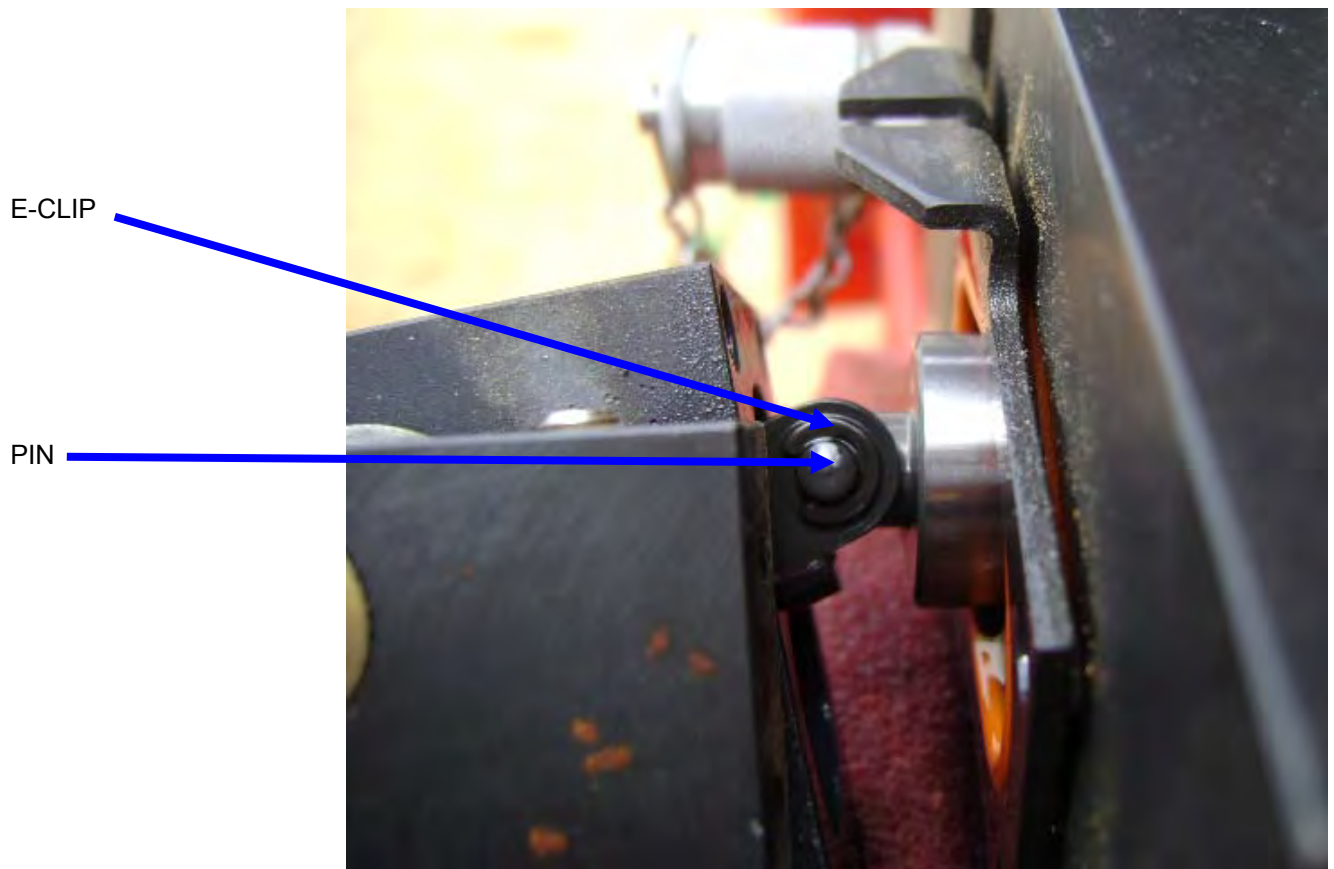

Figure 6
8. Pull the actuator away from the valve body until the e-clip and pin that are attached to the valve spool are exposed (Figure 6).